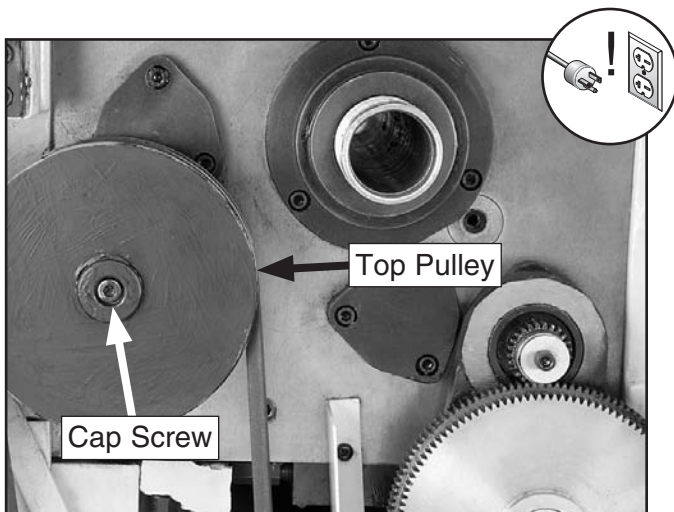

Figure 92. Top pulley and cap screw.
4. Step on the foot brake to lock the top pulley in place, then remove the cap screw shown in **Figure 92**.